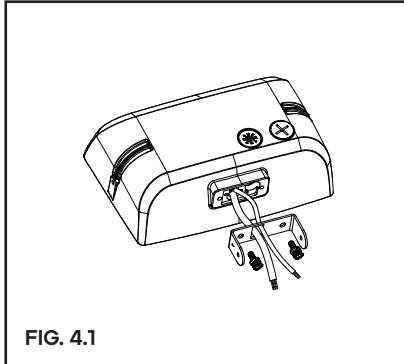

FIG. 4.1
Step 1: Take the lamp out of package; (figure 4.1)